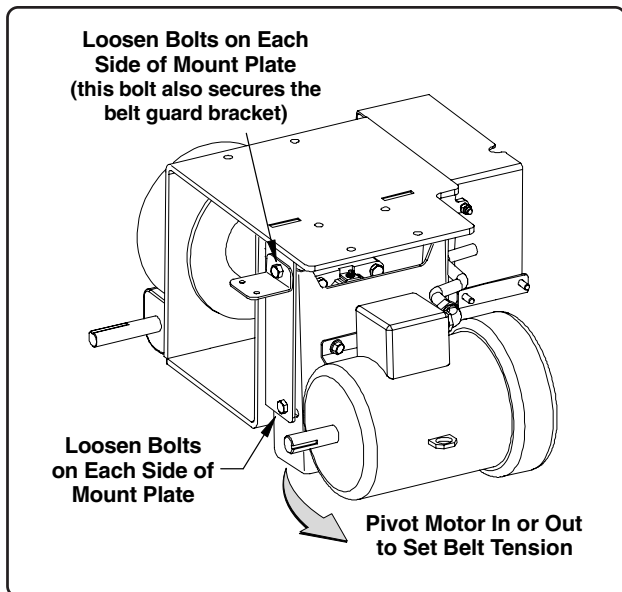

Fig. 13
3. To adjust belt tension, loosen the four bolts securing the motor mount plate, two bolts at top and two bolts at bottom (one of the top bolts is also used to secure the belt guard bracket as shown in Fig. 13).